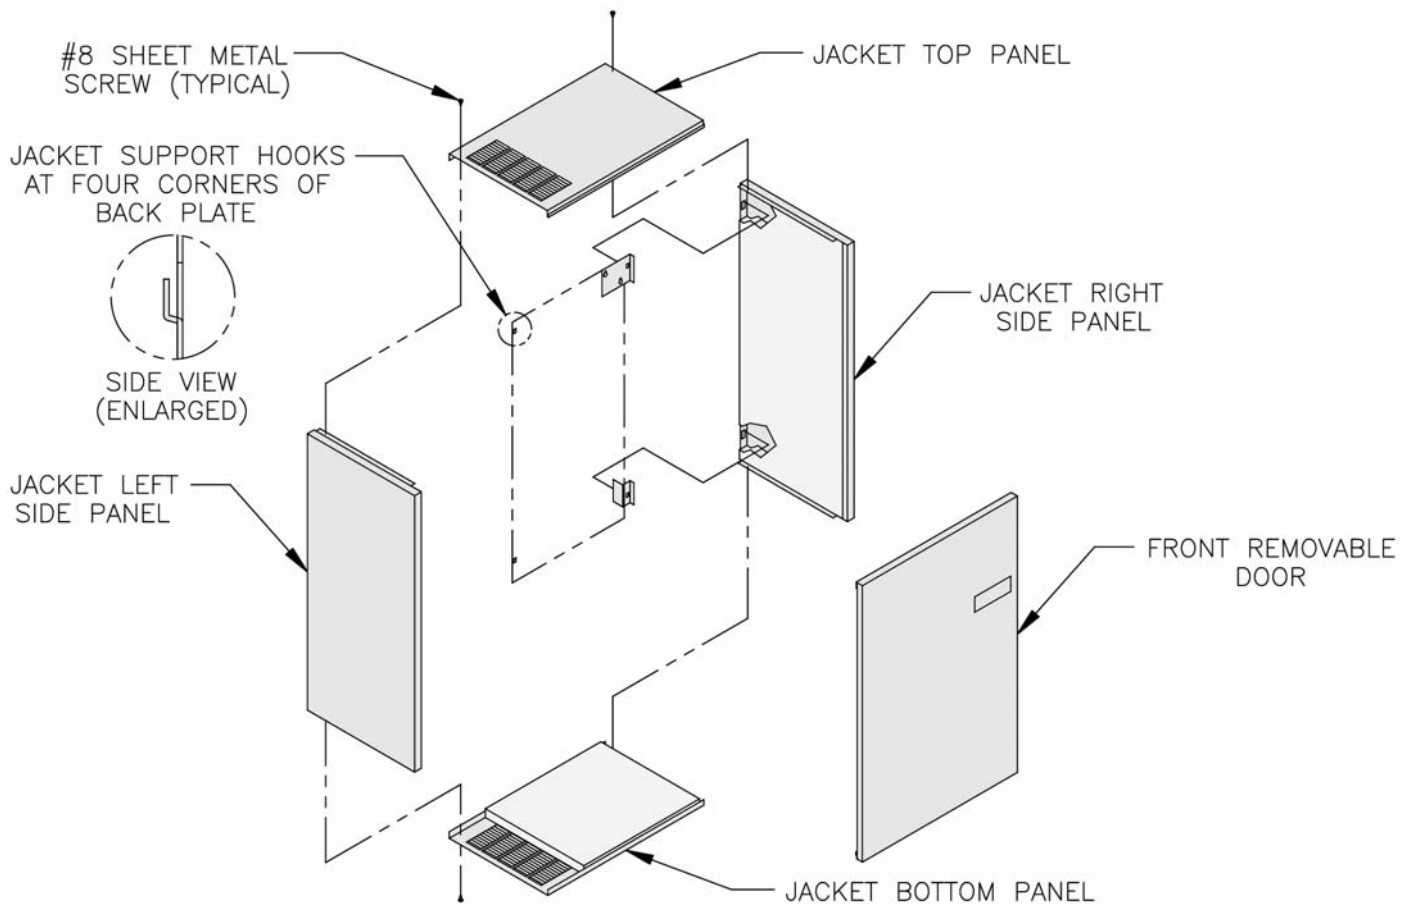

Figure 9
7 INSTALL BOILER FLUSH JACKET (See Figure 9).
support the removable door. (See Figure 9). Place jacket top panel over top side panels with ventilation louvers to the left. Secure top panel with four (4) #8 x ½" long sheet metal screws provided.
- e. Lift jacket bottom panel up to bottom of side panels with front channel forward and ventilation louvers to the left. Secure bottom panel with four (4) #8 x ½" long sheet metal screws provided.